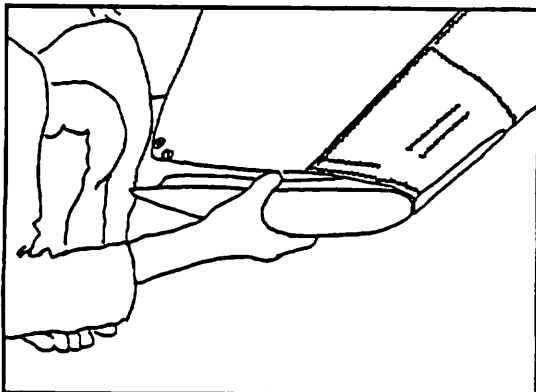

Figure 30
- c) Slide the tip fairing into the end of the sail and press the mating velcro surfaces securely together. (Figure 30, 31)